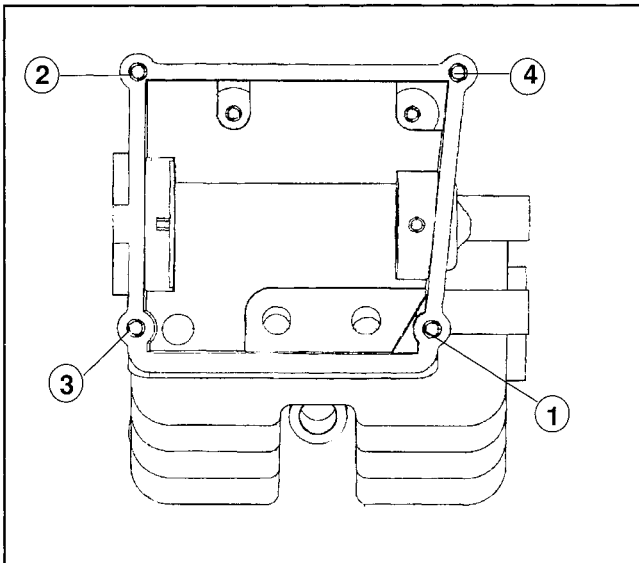

Figure 11-41. Valve Cover Tightening Sequence - #1 Side.
3. Torque the fasteners to **5.6 N·m (50 in. lbs.)** in the sequence shown in Figure 11-41.